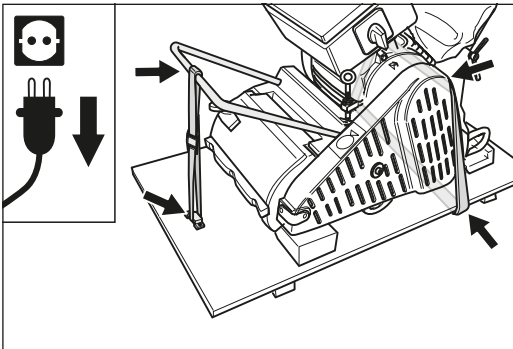

Fig. 47 Transport or storage of the machine on the bottom part of the transport crate.
- **During transport or storage, the machine can also be firmly lashed to the bottom part of the supplied transport crate using two belts (fig. 47)! This will prevent damage to the sanding drum and stop the wheels becoming out of round!**
When storing for long periods, place the machine on the bottom part of the supplied transport crate (fig. 47)! This will prevent damage to the sanding drum and stop the wheels becoming out of round!